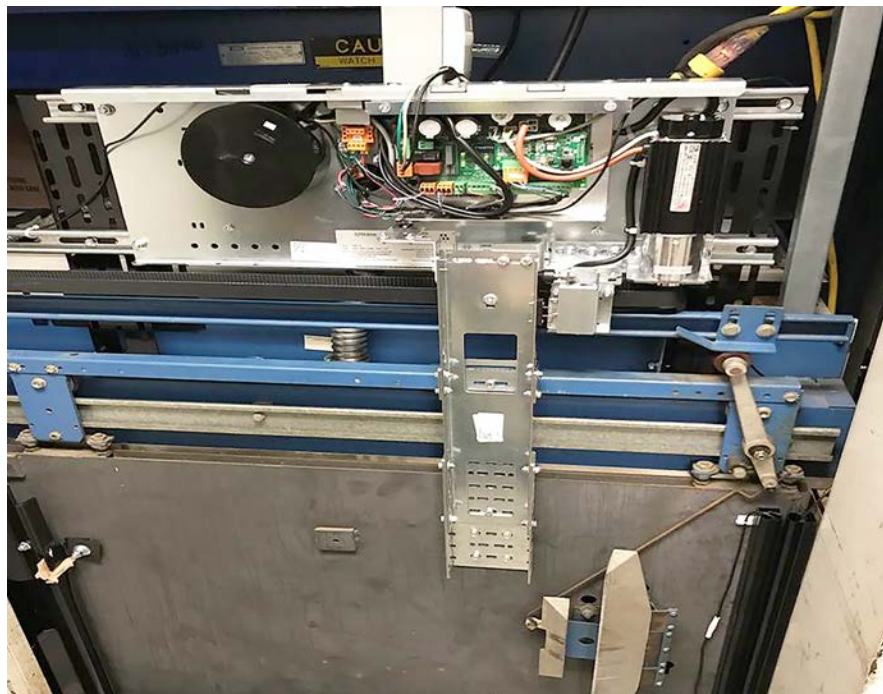
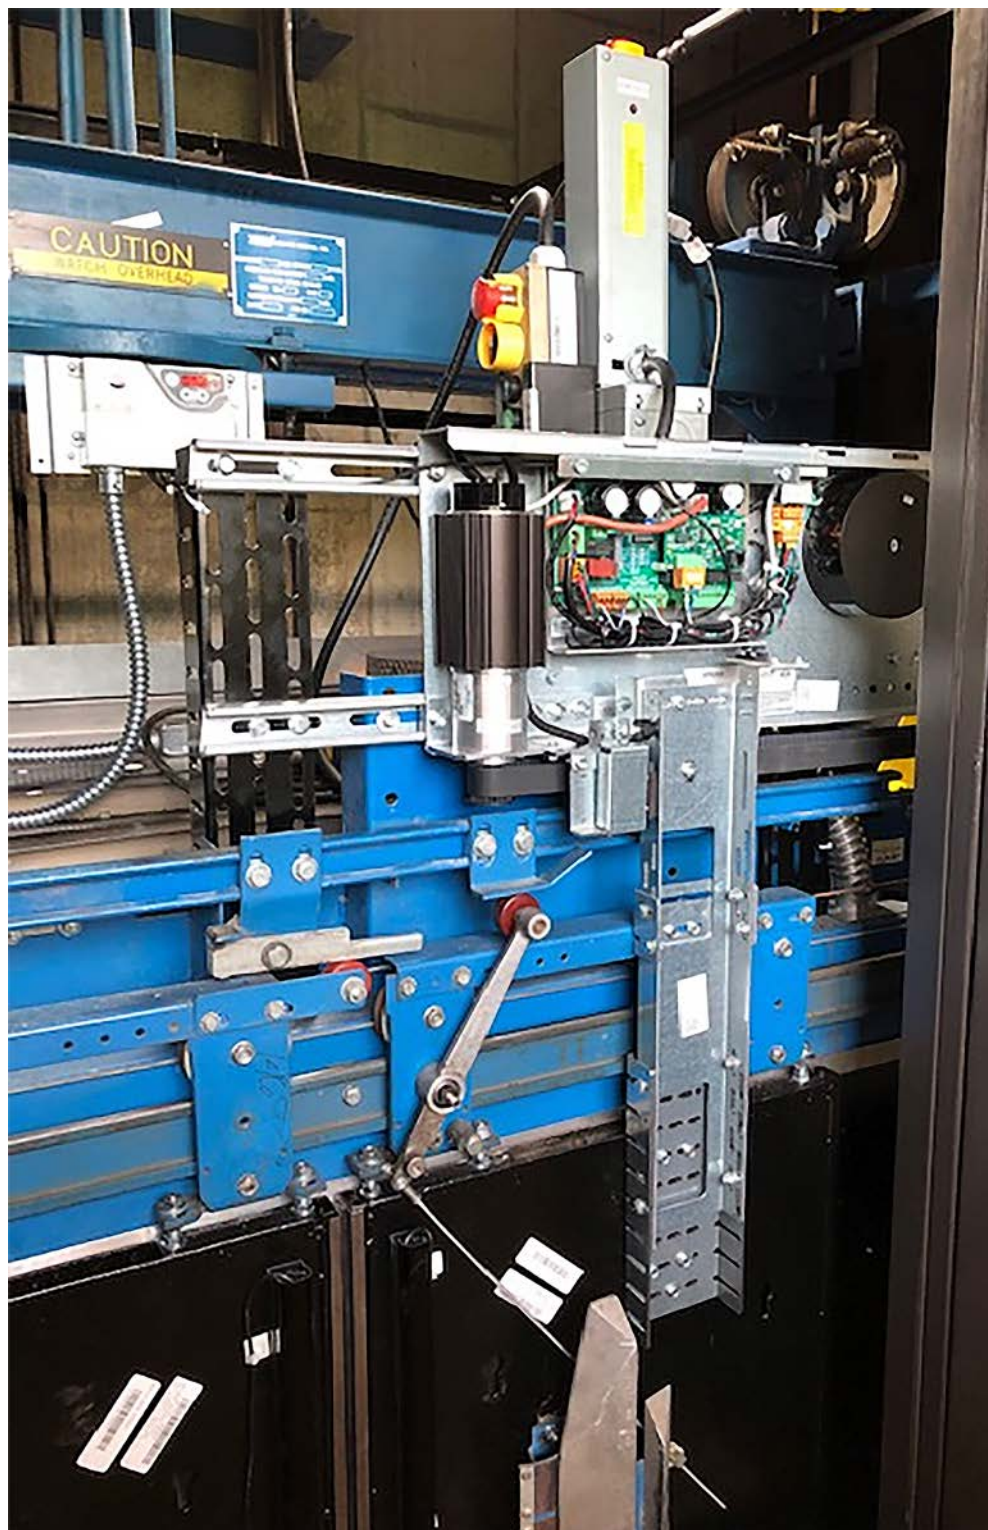

Figure 13 - Installed Door Controller Wiring (SS)
Figure 14 - Installed Door Controller Wiring (CO)
14. Install the following wiring components. For complete installation, see Figure 13 (SS) and Figure 14 on page 19 (CO).